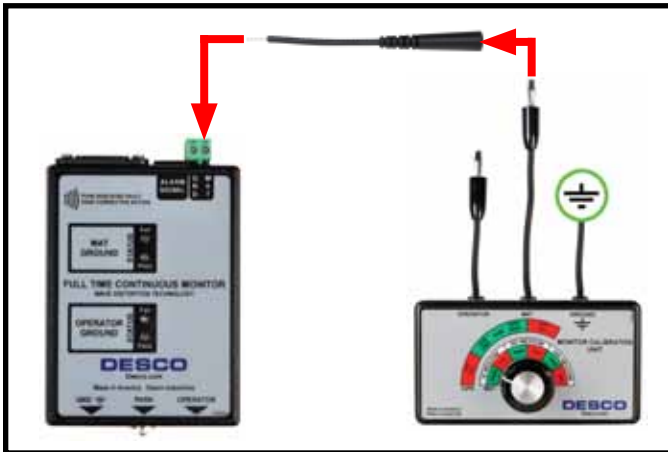

Figure 3. Connecting the MAT test lead from the Monitor Calibration Unit to the Full Time Continuous Monitor
Step 2: Connect the included banana jack to wire adapter to the Calibration Unit’s banana plug labeled “MAT.” Insert the wire end of the adapter to the monitor’s green terminal block labeled “MAT” (see Figure 3).